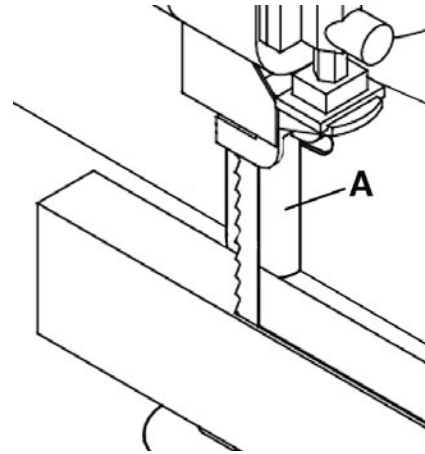

Figure 1
Resawing is a method of ripping a piece of lumber into thinner pieces as well as making book matched or slip matched panels. The curved resaw guide (A) Fig.1 is the best option for guiding wood through the bandsaw. The narrow line of contact makes it easy to compensate for a blade that "leads" or wanders off the cutting line when the stock is fed straight into it. You can get satisfactory results with this resaw guide "single point" method, but it demands very careful hand control.
Here's how you can resaw precisely and easily using resaw guide. Pencil a straight line down the edge of a square edged board. Start sawing along your layout line, guiding the board freehand. If the blade is leading, you will have to feed the board into the blade at an slight angle to keep cutting along the line and to compensate for blade drift. See Fig.1.